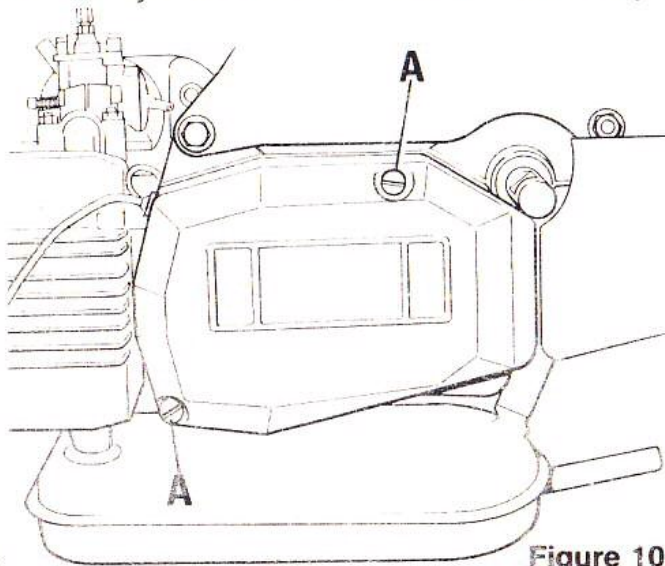
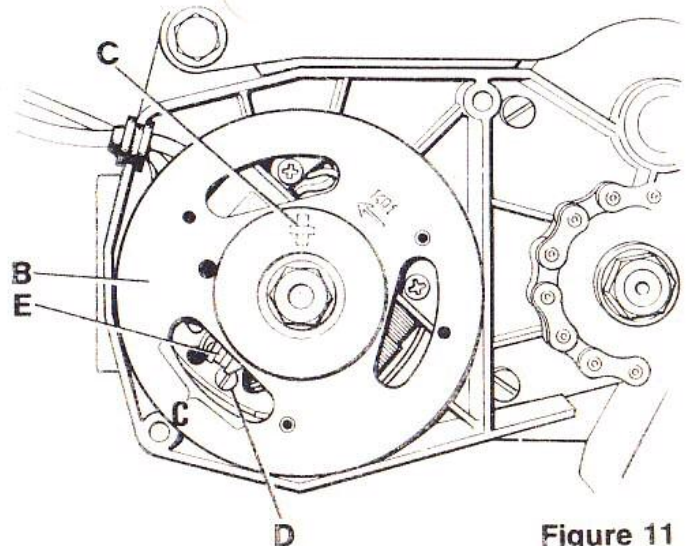

Figure 10
Figure 11
Remove two screws (A) to release the left side outer cover, Fig. 10 . Turn the flywheel (B) until window (C) is in the position shown in Fig.11 . The contact points are then visible.